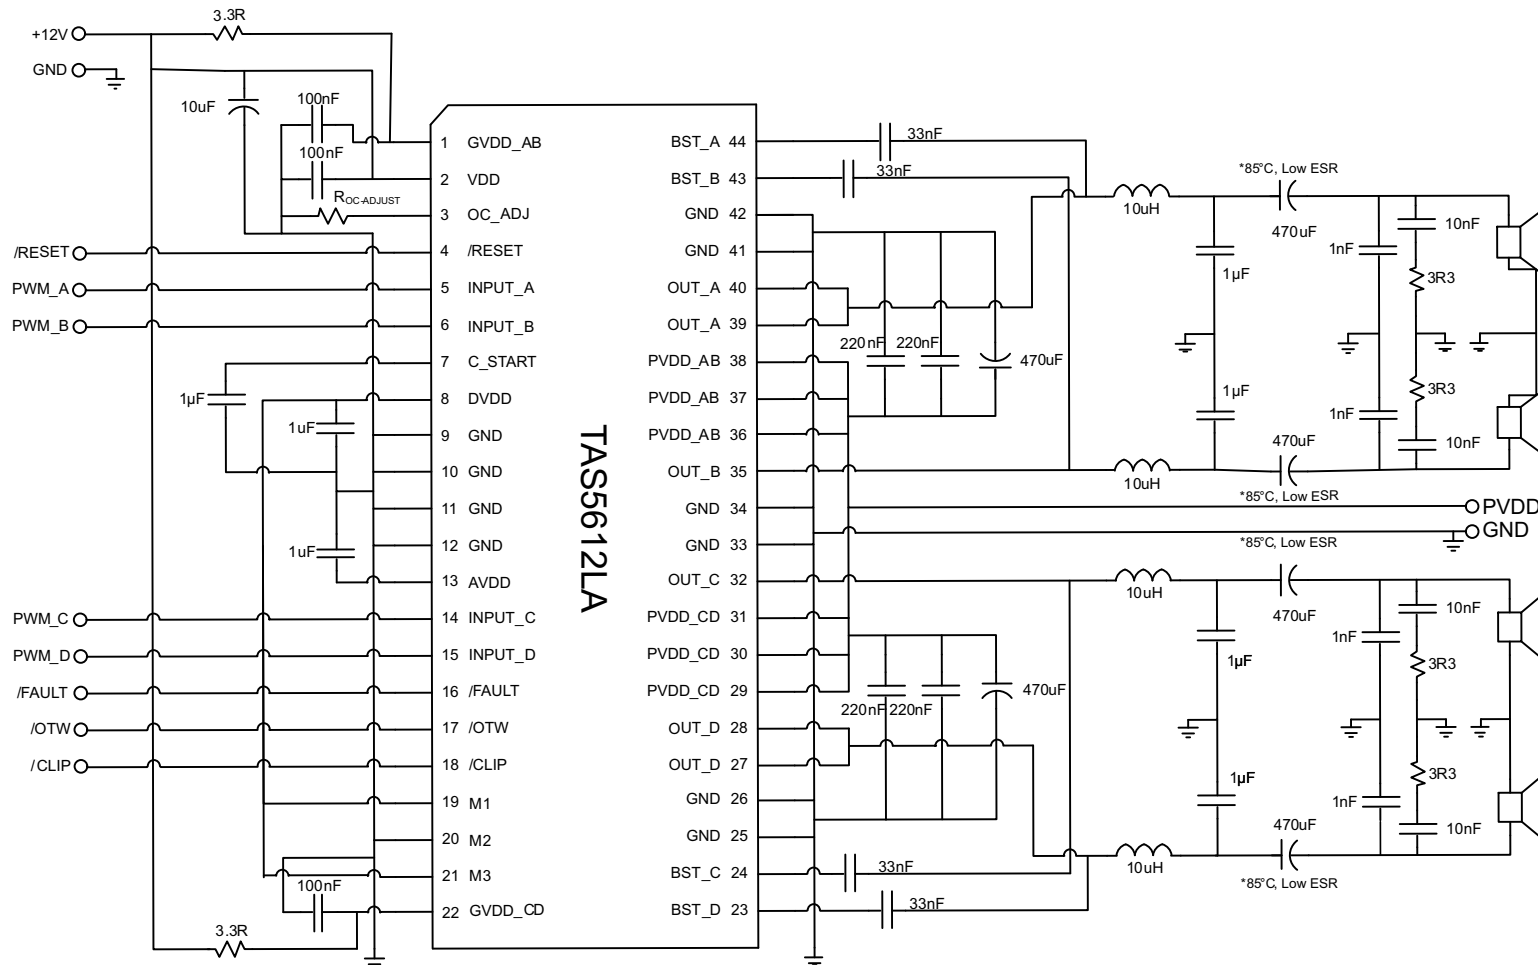

Figure 22. Typical (1N) SE Application
See Figure 22 for application schematic. In this application, four single-ended PWM inputs are used with AD modulation from the PWM modulator such as the TAS5558. AD modulation scheme is defined as PWM(+) is opposite polarity from PWM(-). The single-ended (SE) output configuration is often used to drive 4 independent channels in one TAS5612LA device.
- Pins 27, 28, 32, 35, 39, 40 - Output pins from half-bridges A, B, C, and D. Connect appropriate bootstrap capacitors and differential LC filter as shown in Figure 22.
- Pins 29, 30, 31, 36, 37, 38 - Power supply pins to half-bridges A, B, C, and D. A and B form a full-bridge and C and D form another full-bridge. A 470-μF bulk capacitor is recommended for each full-bridge power pins. Two 0.22-μF decoupling capacitors are placed on each full-bridge power pins. See Figure 22 for details.